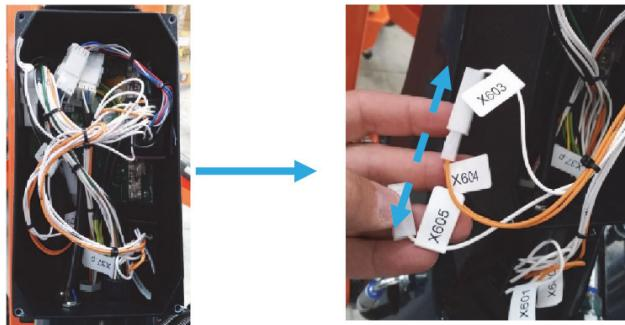

Figure 4-46.
- 11.** Open load cell board (ECM3) box, locate connectors X604 and X603, then disconnect them. See *Figure 4-46*.